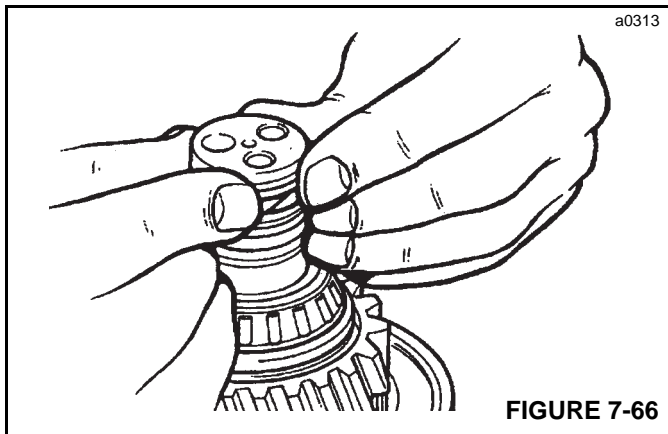

FIGURE 7-66
2. Coat the seal with grease and install the seal to the shaft (Figure 7-66).